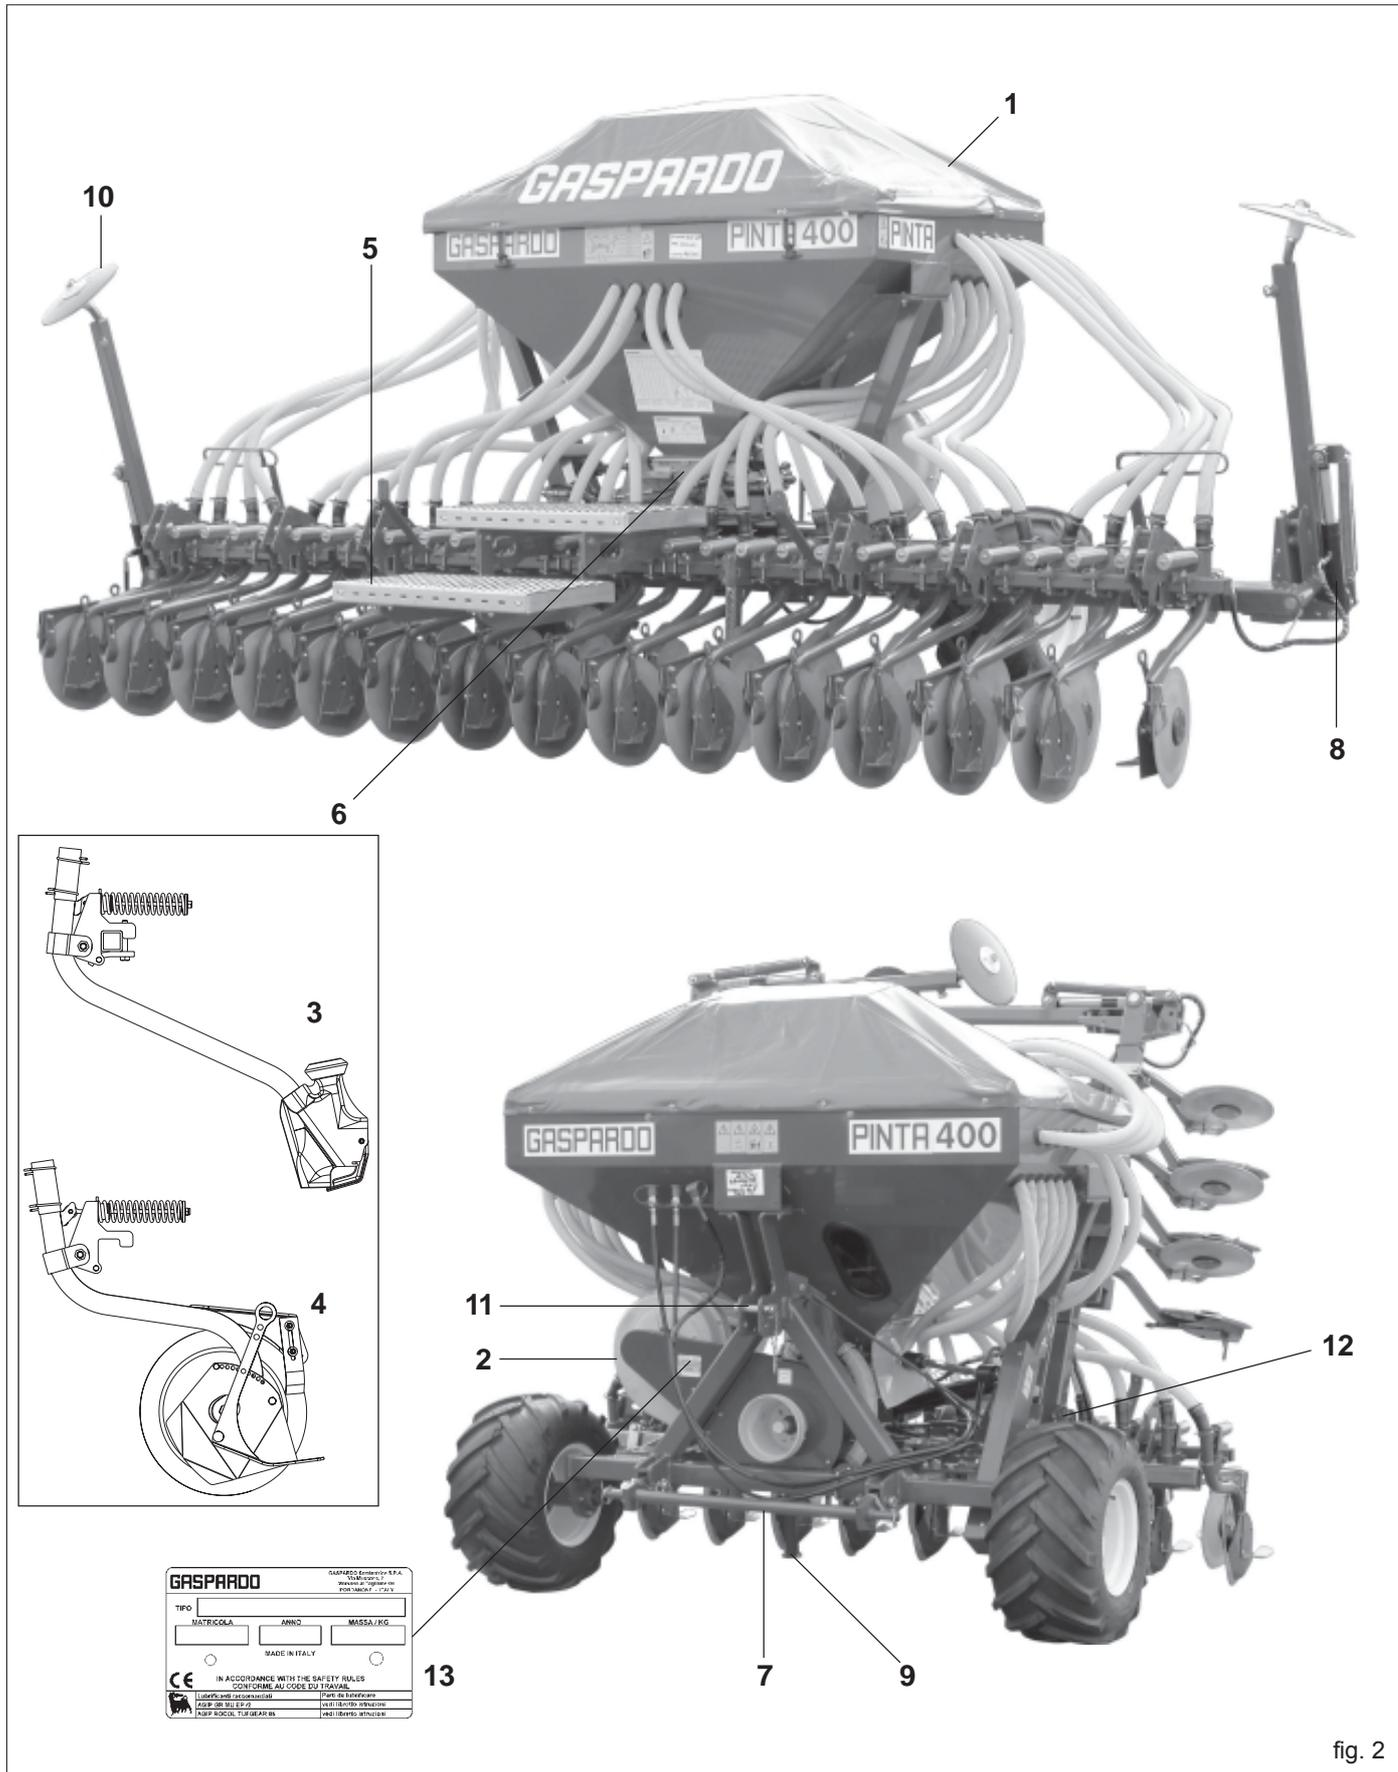

fig. 2
Each individual machine has an identification plate (13 Fig. 2) indicating the following details:
The mass of the machine is on the identification Plate (13 Fig. 2). Stretch the rope to keep the machine level.
1.7 ASSEMBLY DRAWING (Fig. 2)